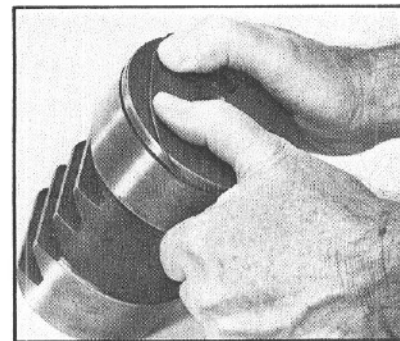
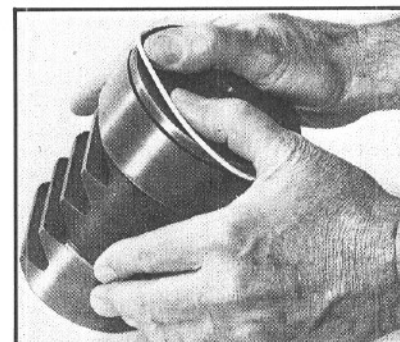

Figure 94
Figure 95
3. Install the new rack piston backup O-ring (30) (FIG. 94), and then the new Teflon rack piston seal ring (29) (FIG. 95). Do not over stretch these rings as you install them. After you install them, coat them with a liberal amount of grease.